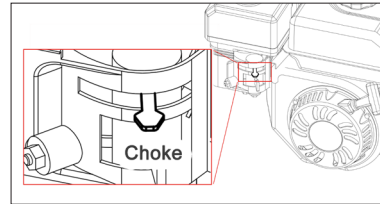
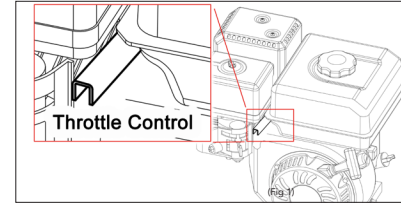

Fig 3. Choke
Fig 4. Throttle Control
6. Set choke to CLOSE position (Fig 3) & set throttle to slow (Fig 4).